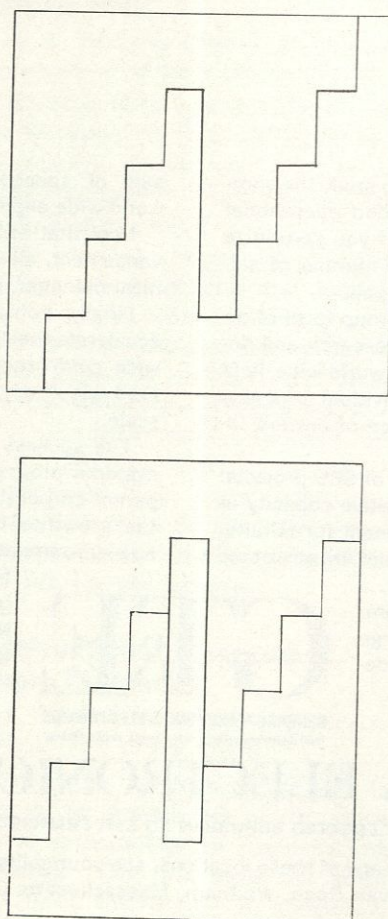

FIGURE 1.
1) For this one I refer you to Figure 1, which should make the solution quite clear. If the rug is cut along the rather unusual line shown in Part a (it didn't take a quiz-kid to discover that a straight cut wouldn't do the job), and the two halves arranged as in Part b, then the exterior dimensions are 9'x12', and the opening in the center is 1'x8'.